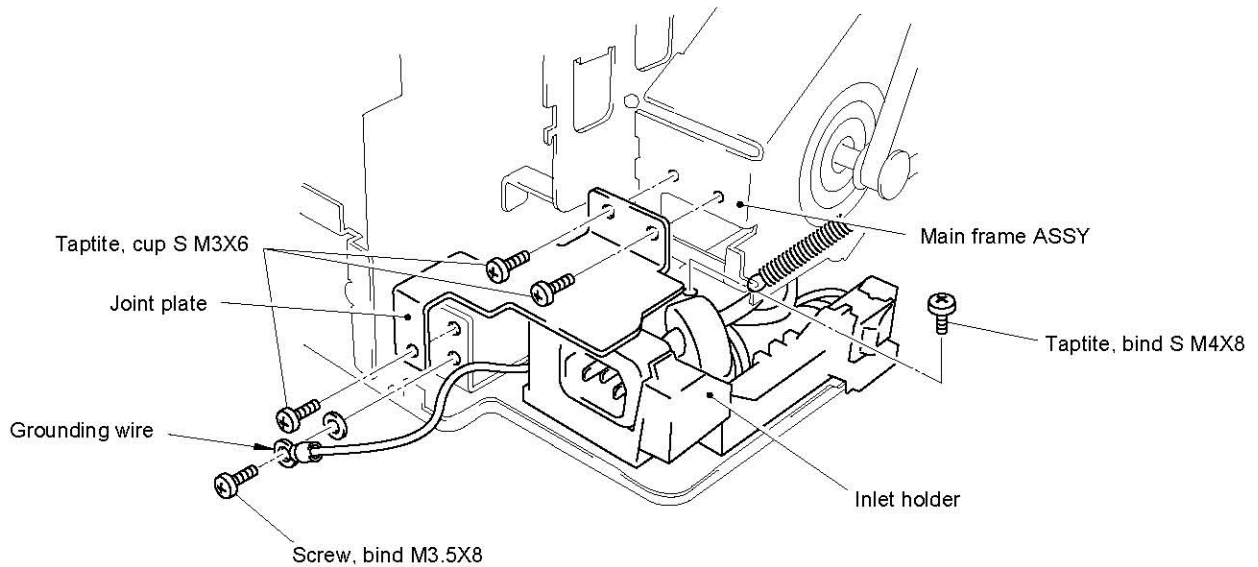

Fig. 4.38
- (1) Position the Base plate on the two bosses on the Main frame ASSY.
- (2) Secure the Base plate with 13 screws.
- (3) Turn over the Main frame ASSY.
- (4) Press the Inlet holder and slide the hook of the Inlet holder until the hook secures the Base plate.
- (5) Secure the Inlet holder with one screw.
- (6) Secure the Joint plate with three screws while pushing it toward the Spring hook plate. Refer to fig. 4.38.
- (7) Secure the grounding wire so that the washer, the grounding wire terminal, and screw are fitted in that order.
- (8) Clamp the AC electrode harness with the left harness clamp and clamp the harness with the right harness clamp.
- (9) Fit the Shield plate CRM and secure with two screws.
- (10) Fit the earth cables and secure with two screw.
- (11) Refit the Maintenance cassette.